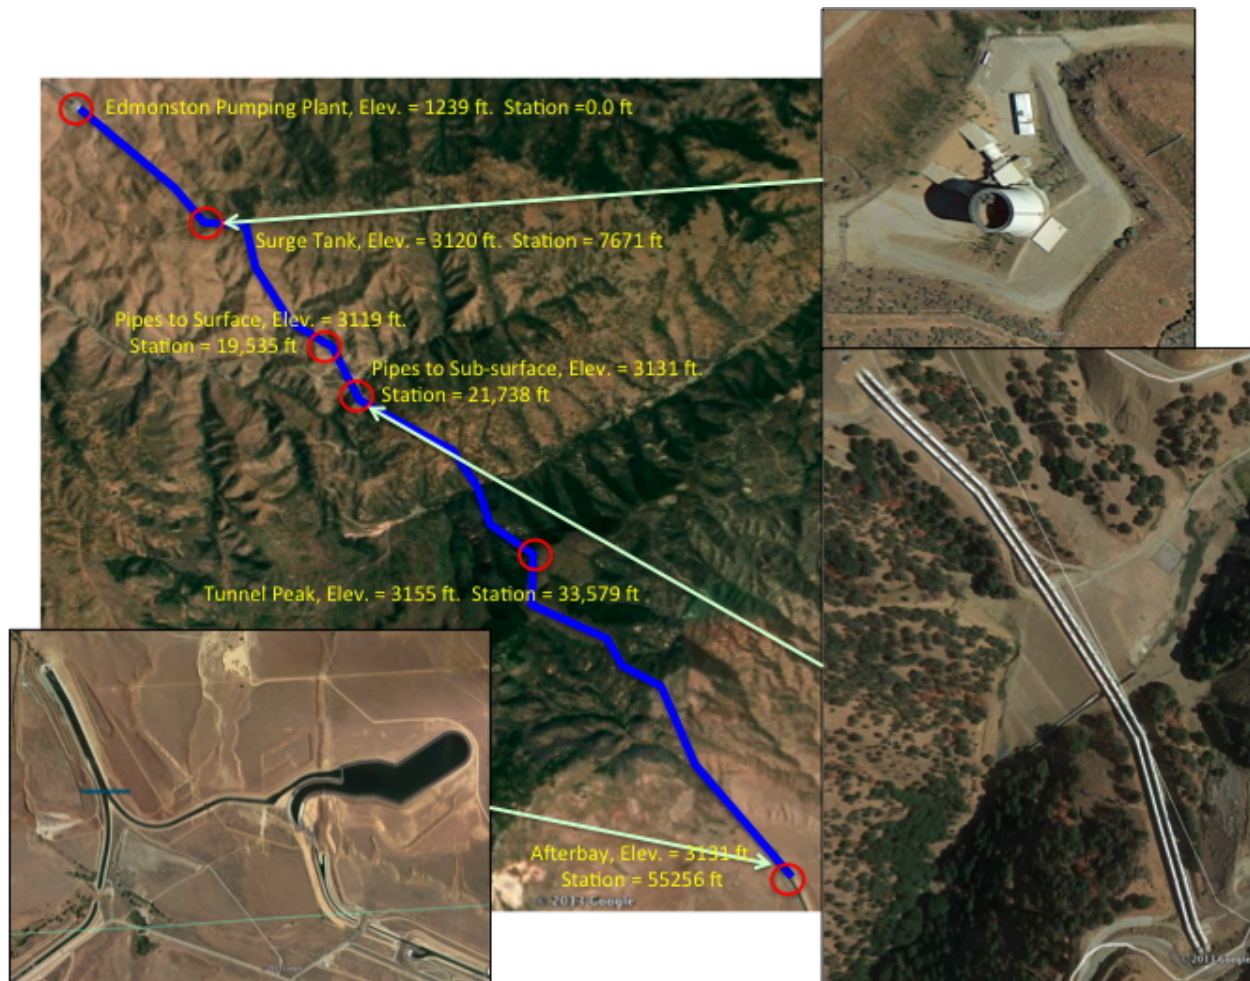

Figure 5: Aerial images of Tehachapi Mountains, California; showing the lift system for the California Aqueduct.
11. (230 points) Figure 5 is a collection of annotated images of the Edmonston Pumping Plant and pipeline/tunnel system at the southern end of the California Aqueduct. The 10+ mile system lifts water from the Edmonston forebay at elevation 1239 feet to the Tehachapi afterbay at elevation 3131 feet for subsequent distribution to various parts of southern California.